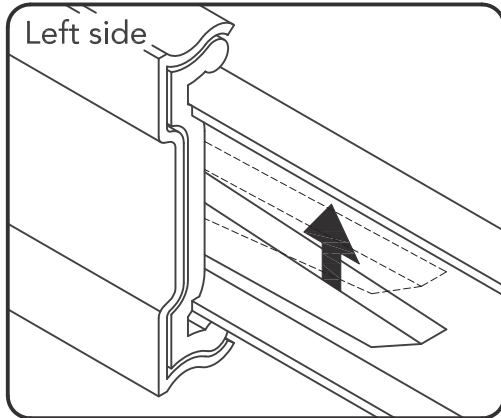

Figure 3
Remove Drawers (S) and (T) by pushing plastic lever on left side up, pushing plastic lever on right side down and pull open. (See Figures 3 and 4)